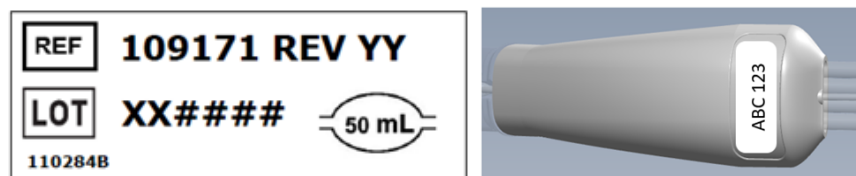

Figure 21: Sample ECD labels with maximum saline capacity
5. **Urologist:** After you confirm alignment, inflate the ECD balloon with 15-20 ml of saline to maintain upward pressure against the anterior rectal wall. Be prepared to fill the balloon up to the maximum capacity as stated on the label on the ECD body (*Figure 21*) or until the ECD is securely positioned in the rectum. It is important that the ECD remains stationary at the correct insertion depth during MR imaging and treatment.